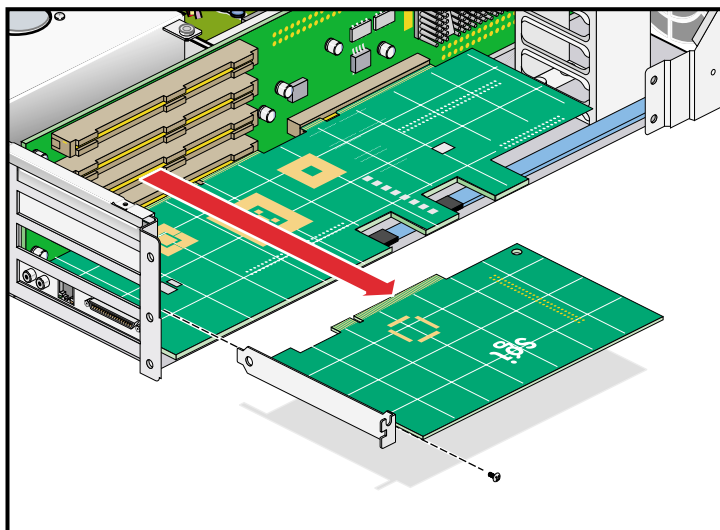

Figure 4-10 Removing the Retaining Screw and Extracting the Card
11. Unscrew the retaining screw from the card that you will remove, and extract the card, as shown in Figure 4-10. Place the card on an ESD-safe surface.